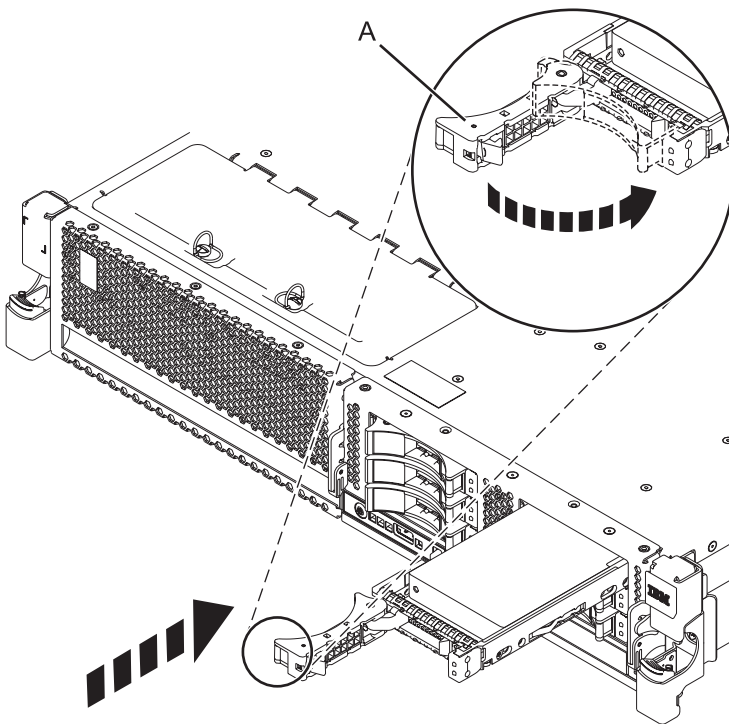

Figure 16. Installing the drive in the system
4. Slide the drive all the way into the system or expansion unit, and push the drive handle (A) in until it locks, as shown in Figure 16.